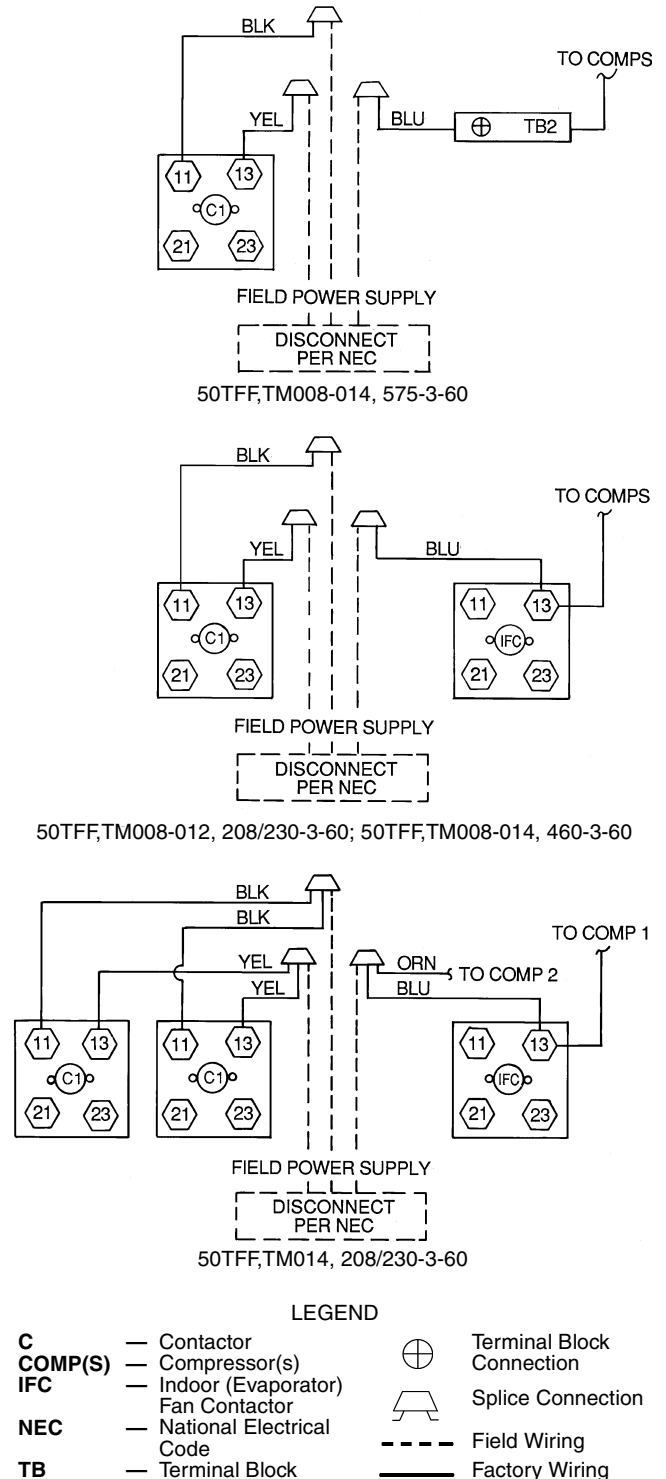

Fig. 8 — Power Wiring Connections
Install field wiring as follows (see Fig. 8, 9, and 10):
2. Install power wires to terminal connections as shown in Fig. 8.